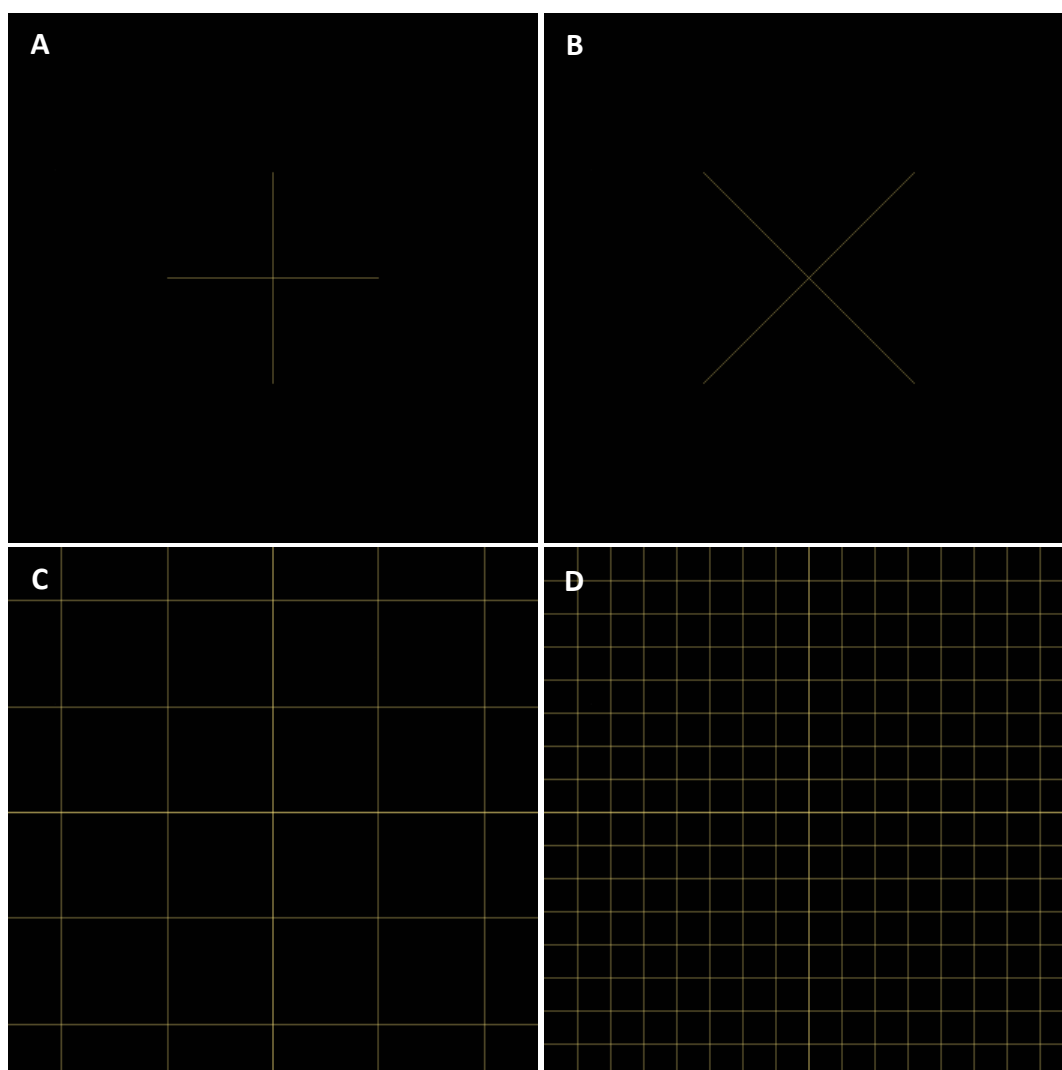

Figure 26 – Grid lines patterns
- Center Cross (X) – see Figure 26 (A)
- Center Cross (+) – see Figure 26 (B)
- Grid lines – see Figure 26 (C)
- Fine grid lines – see Figure 26 (D)